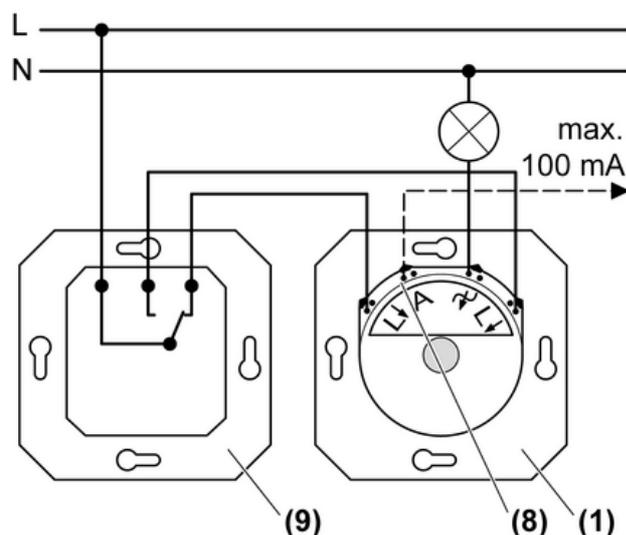

Figure 3: Changeover switch
- (1) Dimmer
- (8) Control output A
(9) Changeover switch
- Connect the dimmer (1) and the changeover switch (9) according to the connection diagram (Figure 3).